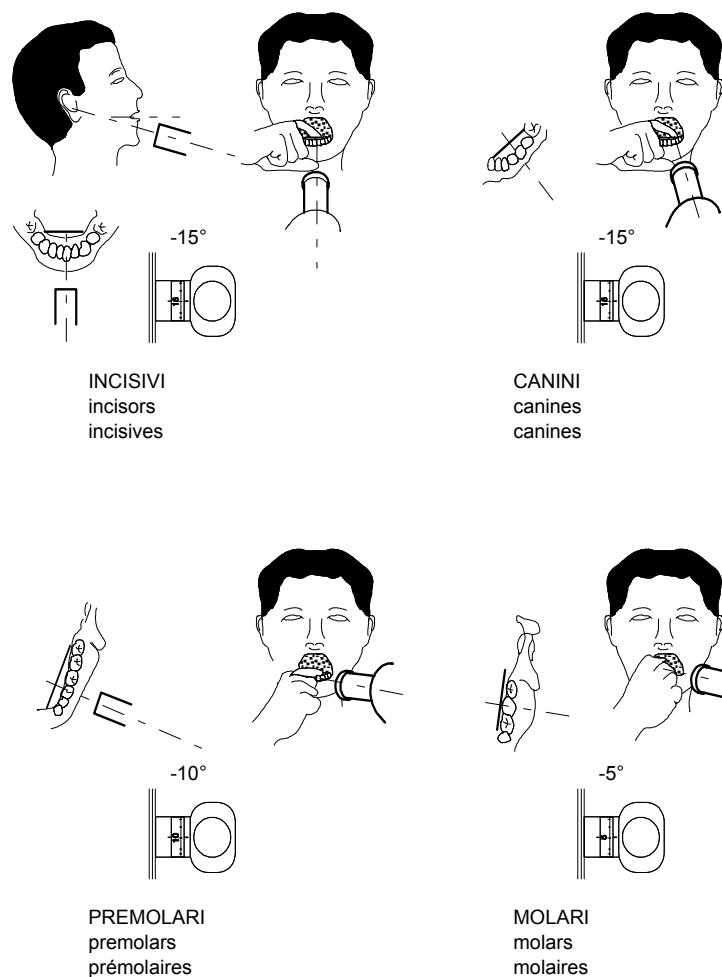
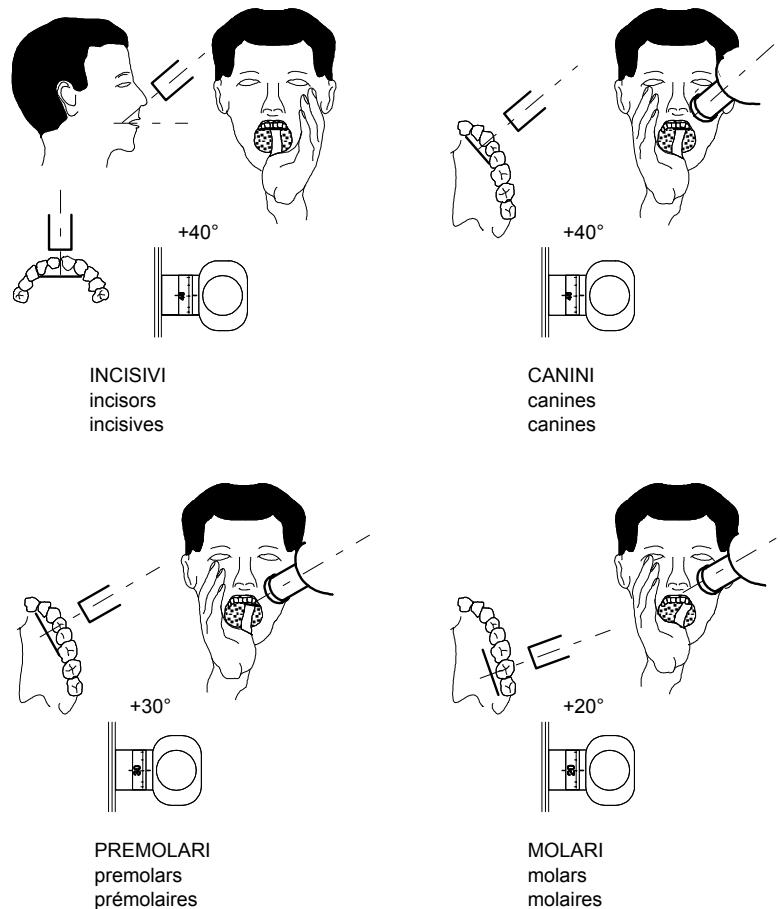
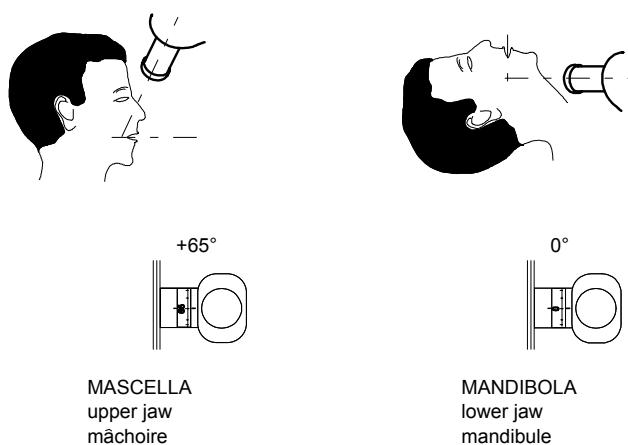
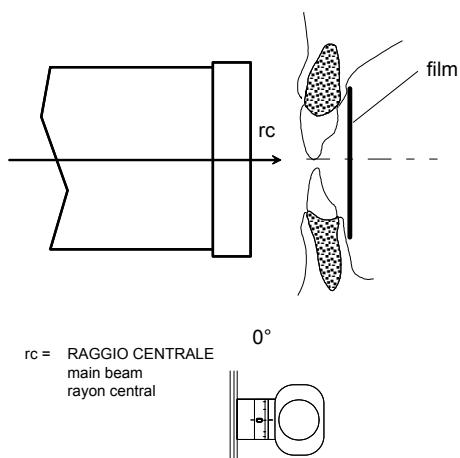

Figure 9
Figure 10
Figure 11
Figure 12
- a)** Set the tubehead with an angle suitable for the exposure and positioning requested (see Figure 9, Figure 10, Figure 11, Figure 12).